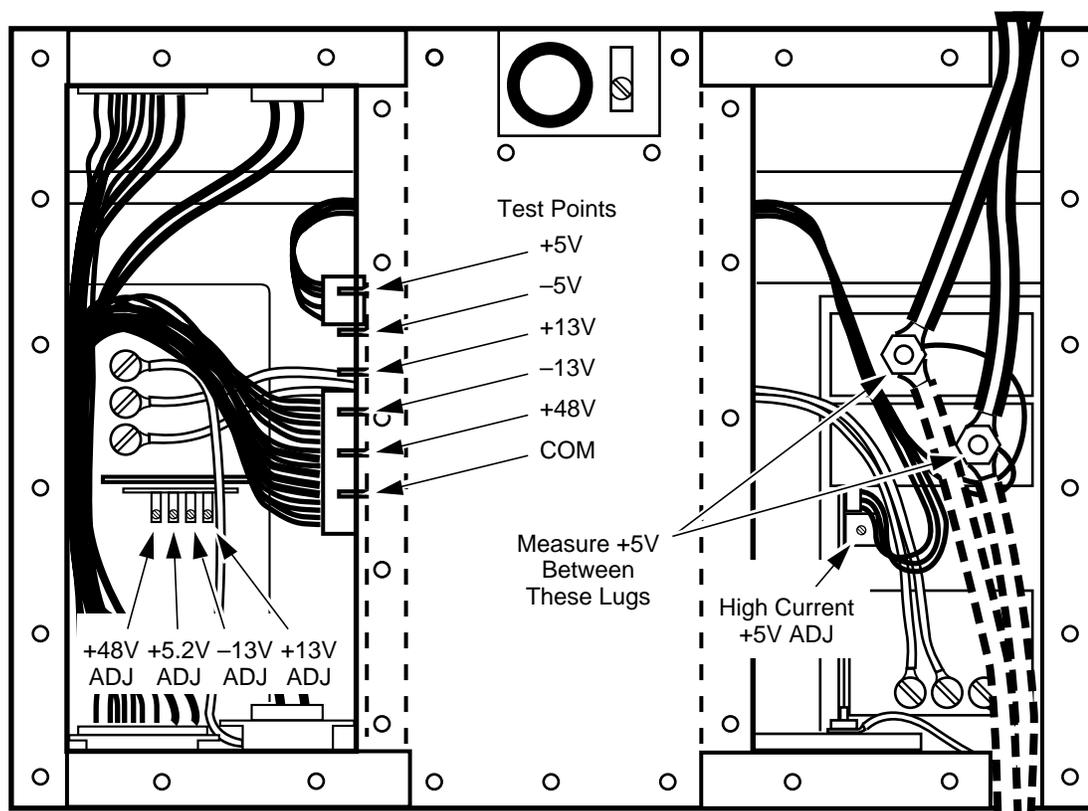

Figure 2-31. Voltage Test Points and Adjustments on Todd Power Supplies
3. Record the following measurements on paper. Measure the Multi-Output supply voltages (-5.2, +13, -13, and +48 Vdc, referenced to the COM test point) at the test points inside the left rear compartment of the power supply frame. See Figure 2-31. Measure the +5 Vdc supply voltage *between* the power lugs in the right rear compartment.
5. With an insulated screwdriver-type adjustment tool, adjust the Redundant Supply voltages to within 20mV of the Primary Supply voltages. Adjustment locations are shown in Figure 2-31.